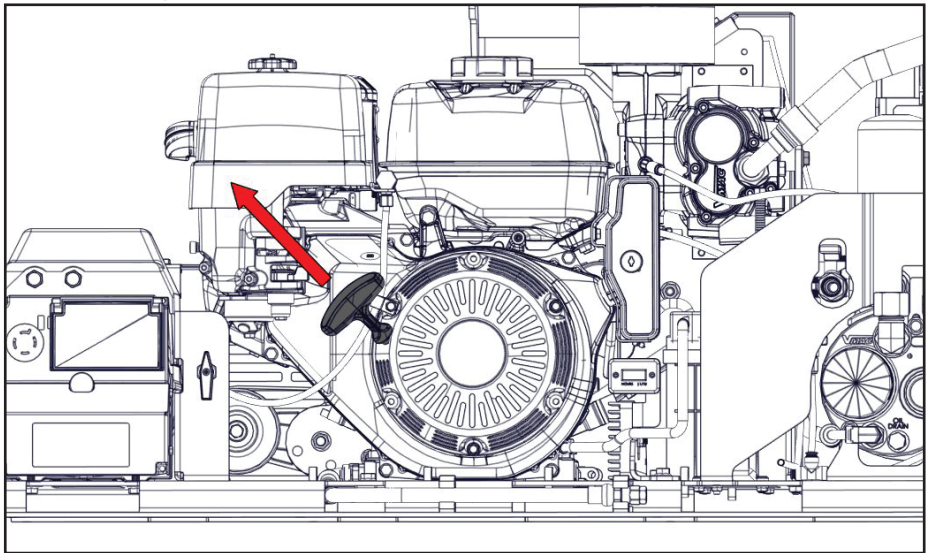

Figure 21 — Pull cord
- 7) Pull the starter grip lightly until resistance is felt, then pull briskly in the direction of the arrow. Return the starter grip gently to prevent damage to the starter (Figure 21).